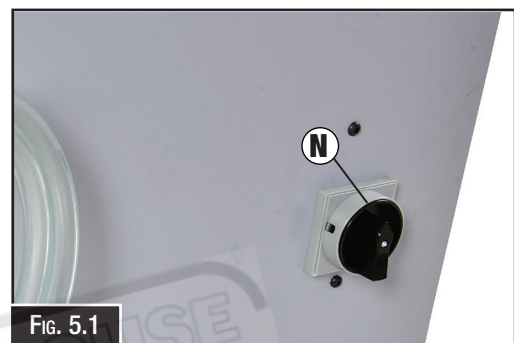

Fig. 5.1
2. Turn on the Main Switch (N in Fig. 5.1). The power light (J in Fig. 5.2) must be on. If the power light is not illuminated then check the Emergency button is released (L in Fig. 5.2)
- Turn Main Isolation Switch to ON position (N in Fig. 5.1).